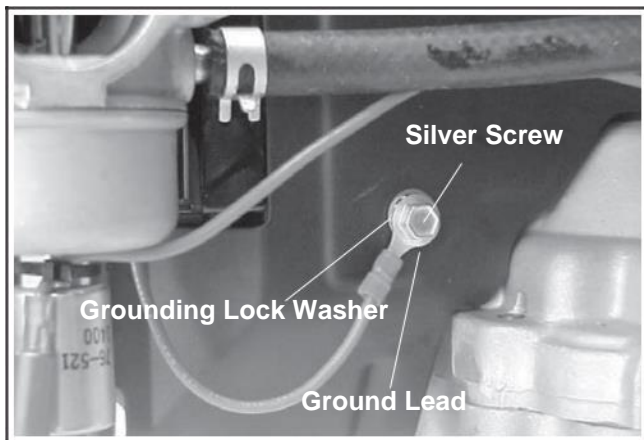

Figure 11-63. Attaching the Ground Lead.
4. Attach the ground lead from carburetor fuel solenoid (if applicable) to the silver screw and lock washer on the cylinder baffle. See Figure 11-63.